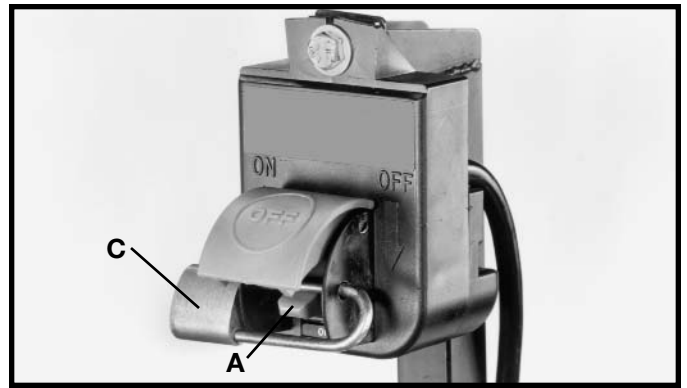

Fig. 33
**IMPORTANT:** When the tool is not in use, the switch should be locked in the “OFF” position to prevent unauthorized use. Insert the shank of padlock (C) Fig. 33, through the holes in the switch plate to lock the on/off switch trigger (A).